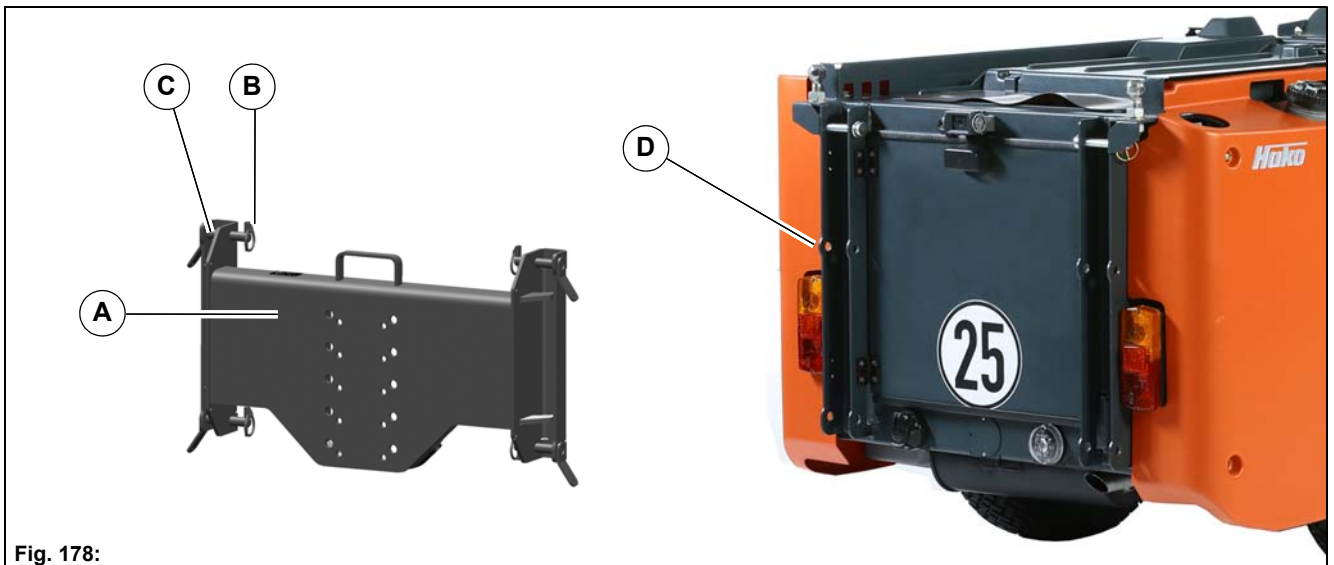

Fig. 178:
The trailer hitch plate **Fig. 178-A** is mounted without tools to the tail of the vehicle.
1. Remove the locking pins **Fig. 178-B** of the four bolts **Fig. 178-C** of the trailer hitch plate and withdraw the bolts.
3. Secure the trailer hitch plate with bolts and locking pins to the holding points **Fig. 178-D** of the vehicle tail.